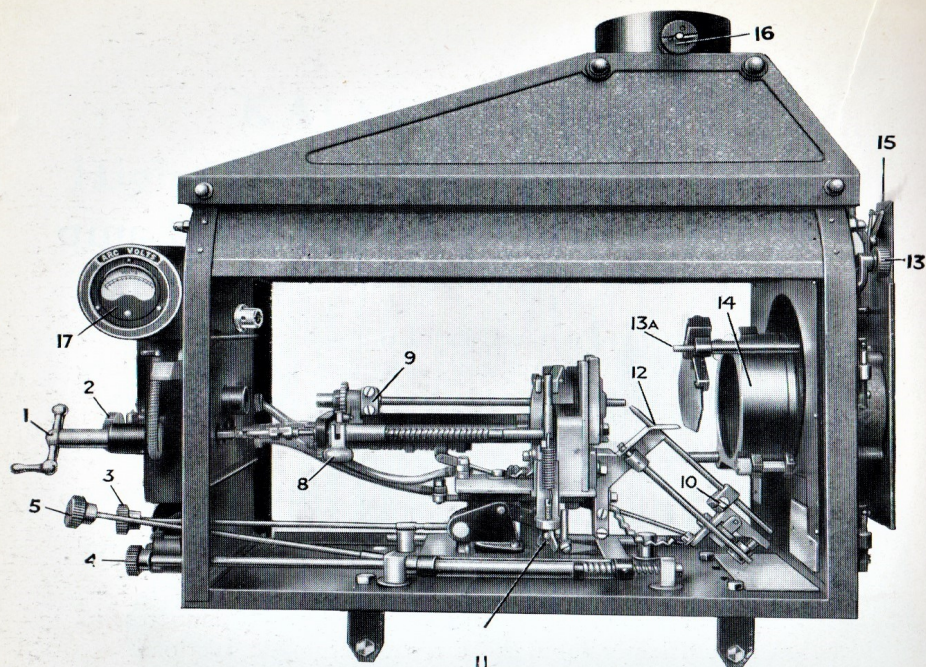

FIG. 2
11. Nut, adjusting tension of positive carbon jaws ; this tension should only be sufficient to ensure wiping electrical contact to the carbon. If adjusted too tight it is liable to break the carbon. The correct tension is such that when the cap grip (9) is loose, the carbon can be revolved with the fingers.
12. Heat resisting carbon dust deflector (Fig. 2).
13. Dowser handle, controlling Dowser (13A) to protect condensers when striking arc (Fig. 2).
15. Quick action light cut off (Fig. 2).